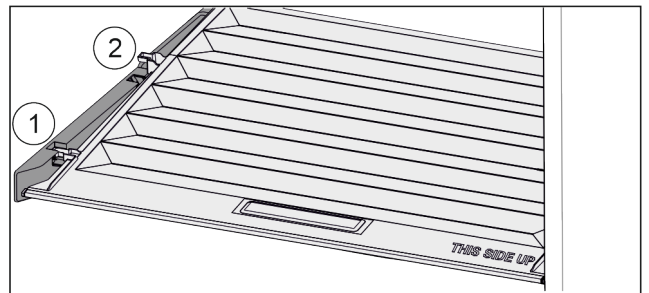

Fig. 98
- ▶ Pull the lid up at the front to the opening in the retaining parts Fig. 98 (1).
- ▶ Lift from the back and pull it up and out Fig. 98 (2).